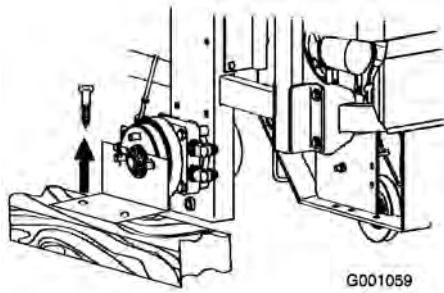

Figure 2
1. Remove the screws holding the right angle retaining plate to the crate (Figure 2).